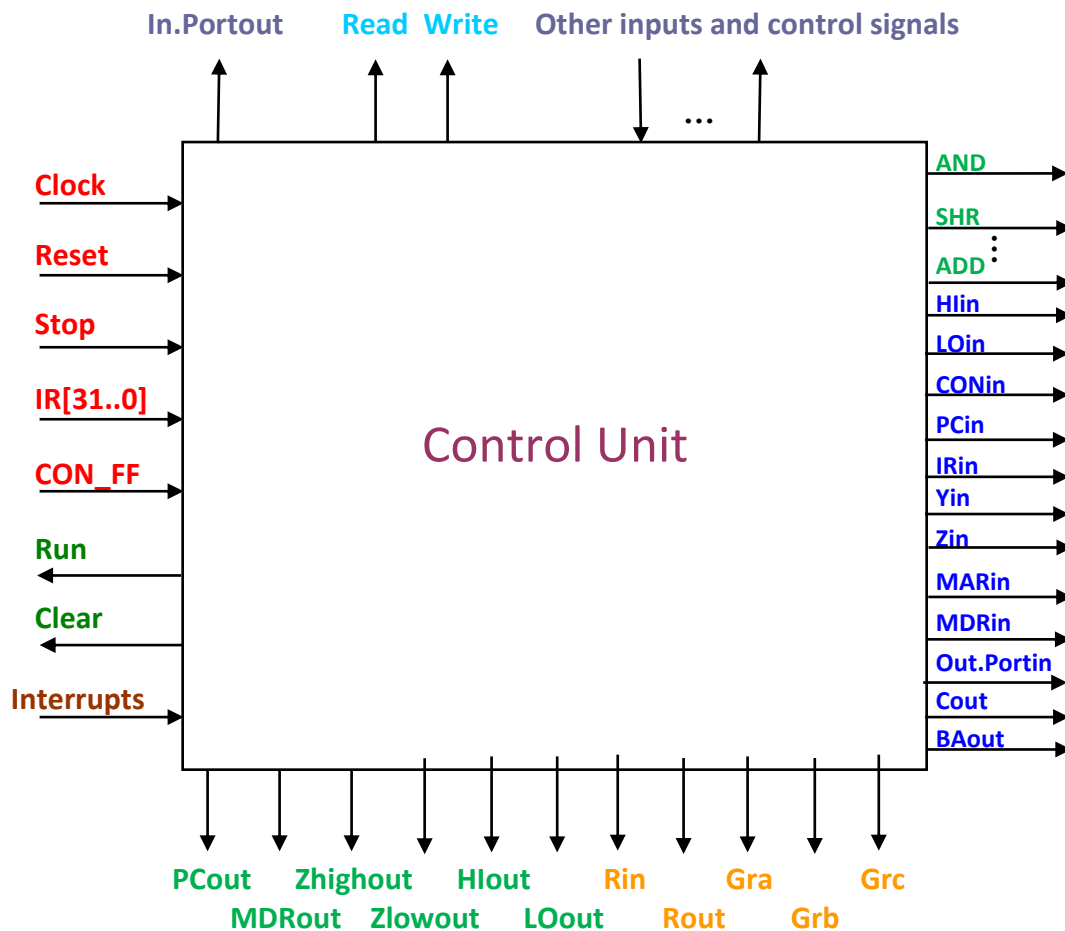

Figure 5: Block diagram of the Control Unit
The ALU has two inputs, A and B, and an output, C. Because the bus can support only one transaction at a time, one of the inputs (A input) to the ALU needs to be stored in the 32-bit temporary register, Y. As discussed in the CPU Specification document, the ALU supports the addition, subtraction, multiplication, division, shift right, shift left, rotate right, rotate left, logical AND, Logical OR, negate, and NOT operations. The control signals to the ALU (generated by the Control Unit in Phase 3, as shown in Figure 5) will enforce the required operation. These control signals include *ADD*, *SUB*, *MUL*, *DIV*, *SHR*, *SHL*, *ROR*, *ROL*, *AND*, *OR*, *NEG*, and *NOT* control signals, among others. Note that in Phase 1 and Phase 2, you simulate such control
2.2 Control Unit: The Control unit is to be designed in Phase 3. However, a block diagram is provided in Figure 5 for a better understanding of the Datapath. The Control Unit is at the heart of the processor. It accepts as inputs those signals that are needed to operate the processor and provides as outputs all the control signals necessary to execute the instructions. The outputs from the Control Unit are the control signals that we use to generate **Control Sequences** for the instructions of the Mini SRC.